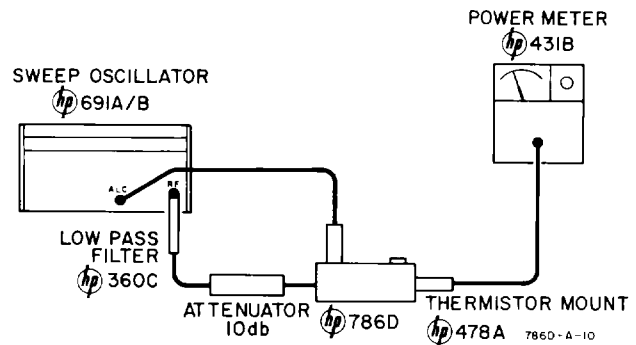

Figure 8. Frequency Response Check
- a. Set up test equipment as shown in Figure 8.
a. Set up test equipment as shown in Figure 8 with the following exceptions: the 10-db Pad should be connected between 786D and 478A and detected output connected to a DC Voltmeter through a BNC-to-binding post adapter.